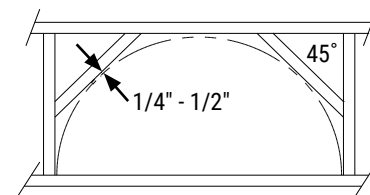

Figure 1a
3. If installing a "half-round" or "elliptical" transom, you will need to install additional anchor points to secure the transom as shown in **Figure 1a** or **Figure 1b**. Installing a rectangular transom will be similar but without adding extra braces.
Use 2x4 material or as close to the width of the wall opening as possible and fasten down. For a "half-round" transom, place both braces so that they are in a 45° angle and spaced with 1/2" clearance above the transom jamb, as shown in **Figure 1a**. For an "elliptical" transom, place both braces so that they are in a 20° angle and spaced with 1/2" clearance above the transom jamb as shown in **Figure 1b**.